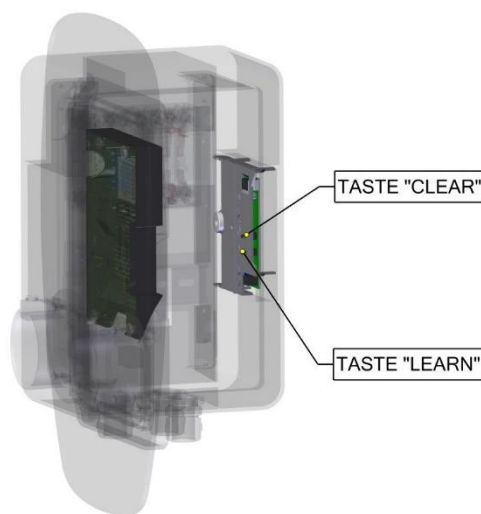

Figure 4 Control panel of the RFID module
2. press and hold the Learn button on the RFID module and place the card to be learned on the right outside of the wallbox. (see Figure 4) A taught-in RFID card is signaled by a white status LED of the wallbox.
1. Start the deletion process by pressing and holding the Clear and Learn buttons on the RFID module until the LED indicator flashes pink. The memory has been successfully deleted. This process can take up to one minute. (see Figure 4)